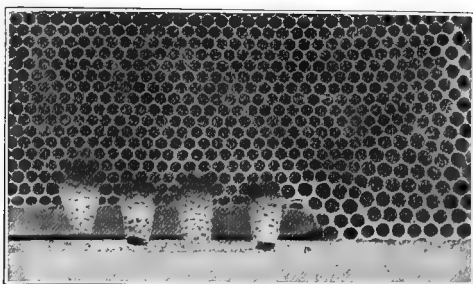

FIG. 3.
*Combs*, Fig. 3, are made of beeswax, and a small quantity of pollen. Wax is not gathered, but is secreted in eight little pockets on the under side of the worker bee, Fig. 4. It is made from honey; for its secretion the bees gorge themselves with food, and then hang in festoons in the hive perfectly quiet for twenty-four hours; during that time the food is changed by chemical action into wax, and exudes in a liquid state into the pockets, where it hardens, and is then plucked out, mixed with saliva to make it plastic, and moulded by means of the jaws into cells.